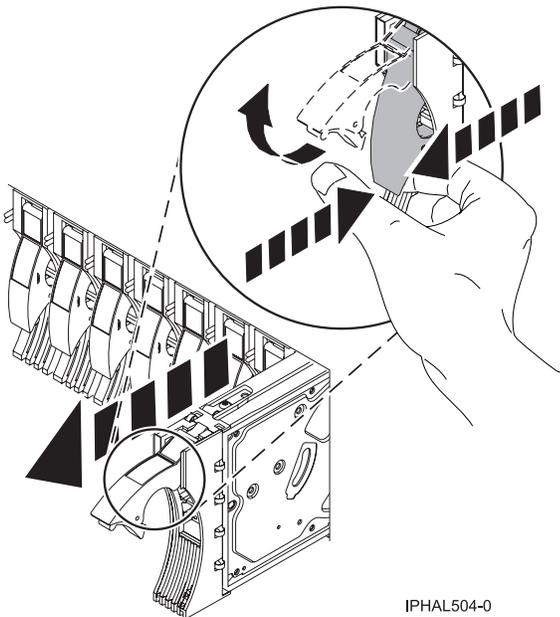

Figure 59. Removing a disk drive from a model or 7311-D20
8. Squeeze or lift the handle of the disk drive out toward you before you remove the disk drive, as shown in Figure 59. If the handle is not all the way out, the disk drive can not slide out of the system or expansion unit.